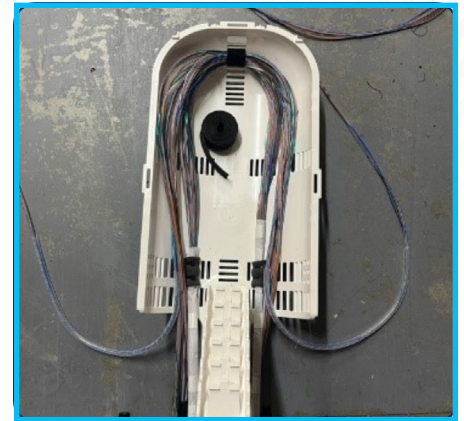

Figure 11.5
5. Separate the first unit bundle on each side of the cable. Add 320mm of spiral wrap to each side of the fibre unit bundle [\[figure 11.5\]](#).